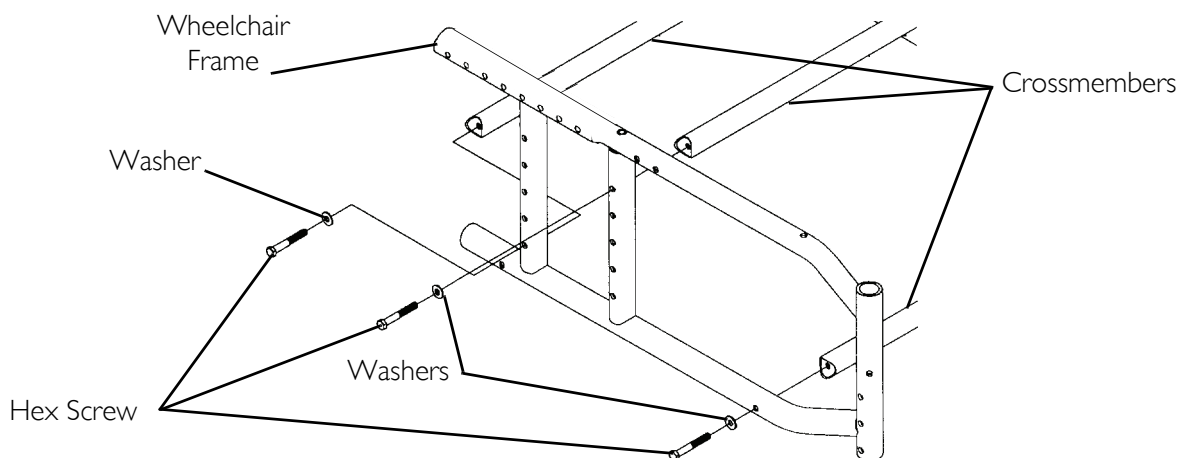

FIGURE 8.6 Changing Seat Width - Rigid Frames
NOTE: For this procedure, refer to FIGURE 8.6 on page 84.
4. Install the new crossmembers onto the wheelchair by reversing STEP 3. Refer to FIGURE 8.6 for correct hardware orientation.